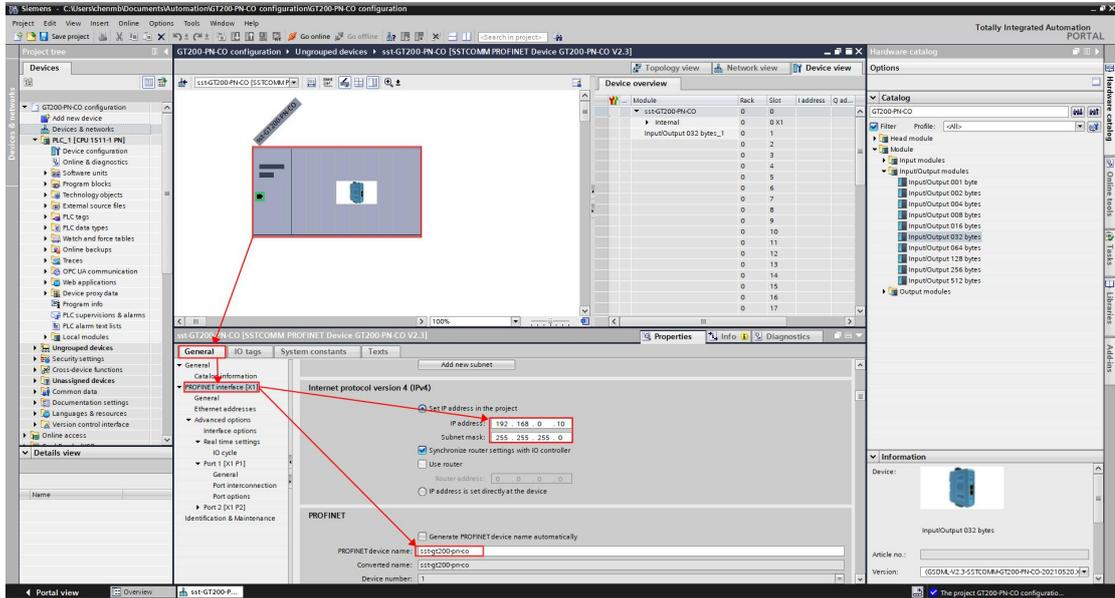

Figure 13: Configure the GT200-PN-CO device name and IP address
3.5 Double-click the device and click the general bar below - PROFINET interface [×1] to change the gateway IP address and device name must be consistent with the software configuration in Step 3.1, as shown in Figure 13.